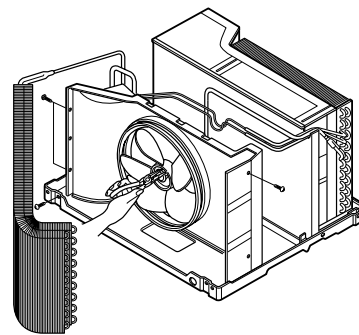

Figure 23
3. Remove the side cover with 2 screws. (See Fig. 23)
7. Remove the fan. (See Fig. 23)